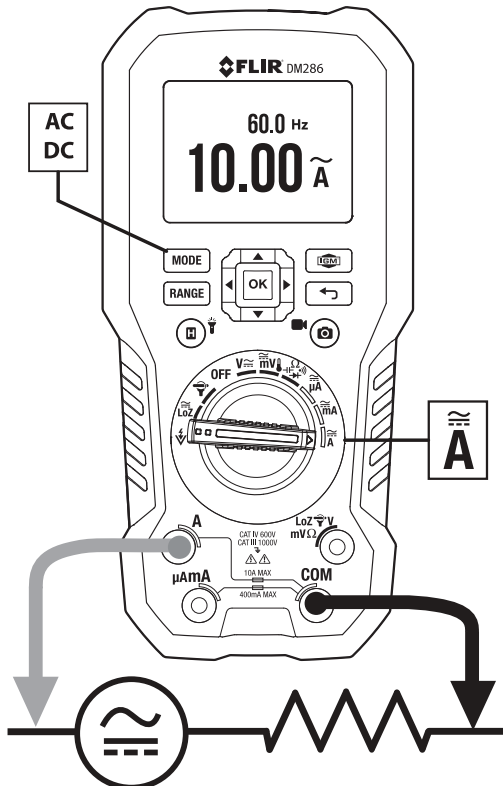

Fig. 9.10 High Current 'A' Measurements
4. Connect the probe leads in series with the part in accordance with **Fig. 9.10** for 'A' measurements, **Fig. 9.11** for mA measurements, or **Fig. 9.12** for μA measurements.